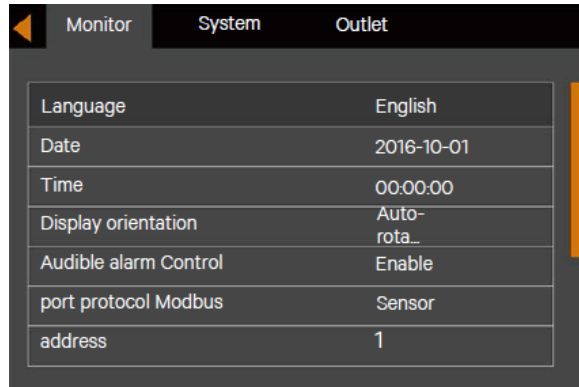

Figure 5-13 Monitor Interface
2. Press the  key to move the cursor to 'Monitor', see Figure 5-13.